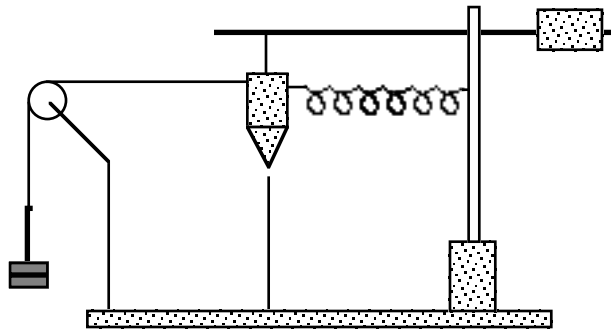

Fig. 3. Measuring the force to stretch the spring.
9. Measure the force necessary to pull the heavy mass out to the indicator by tying the string to the stationary heavy mass and extending it over the pulley (Fig. 3). Apply enough weight to the end of the string to stretch the spring out so that the heavy mass will again be *directly* over the indicator. **What is the necessary weight?** Remember that the weight hanger also has mass.